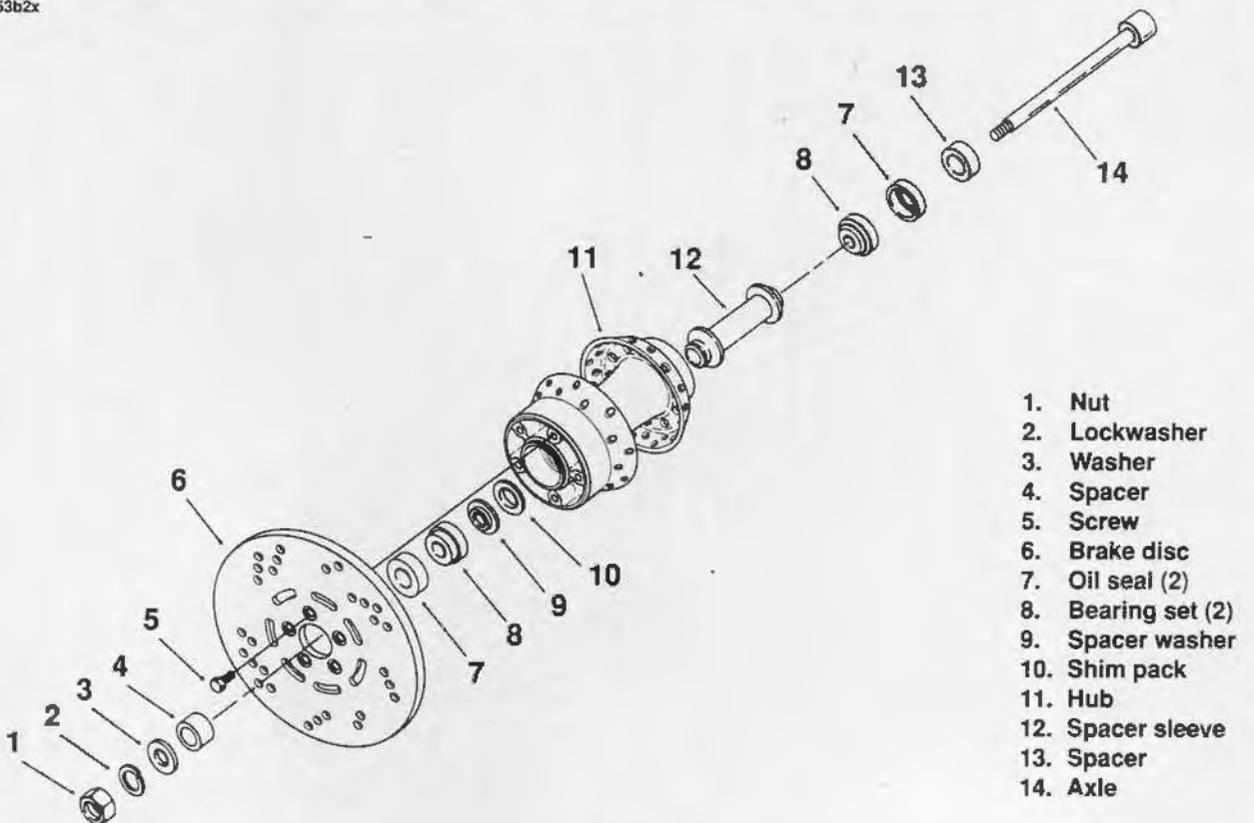

Figure 2-4. Laced Front Wheel
1. See Figure 2-4. Remove the spacer (4), oil seals (7), bearing cones (8), spacer washer (9), shim pack (10), and spacer sleeve (12). Discard the oil seals.
3. If it is necessary to remove the brake disc, remove the screws (5) securing the brake disc. Mark the wheel and disc so they will be assembled in their original positions.
1. See Figure 2-4. If the hub and rim were disassembled, see assembly instructions under LACING WHEELS later in this section.
2. Be sure brake disc is clean. Install brake disc in the original position using new screws (5). Tighten screws to 16-24 ft-lbs (22-33 Nm).
4. Place the spacer sleeve (12), shim pack (10), and spacer washer (9) into the wheel.